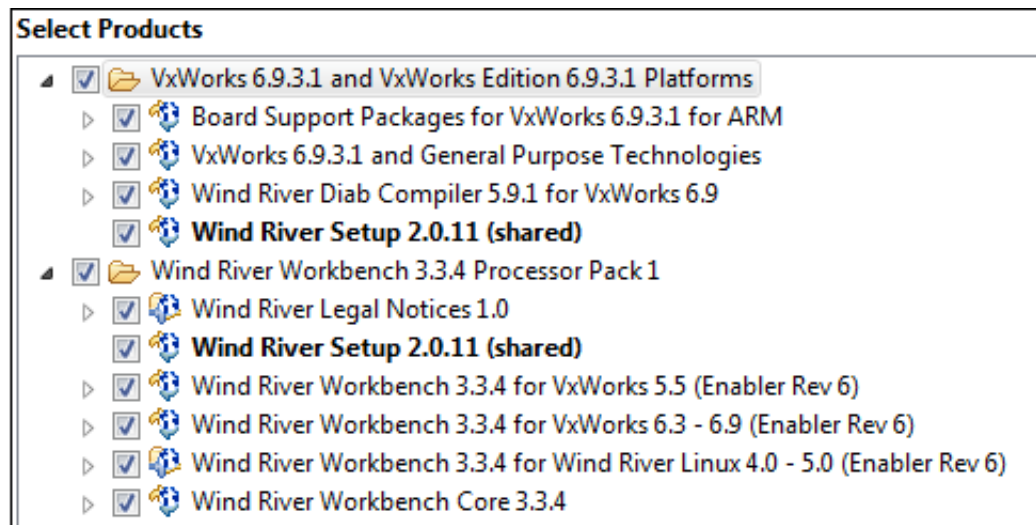

Figure 2: Select Products Dialog Box
2. Apply updates based upon your license file, as shown in Figure 2.